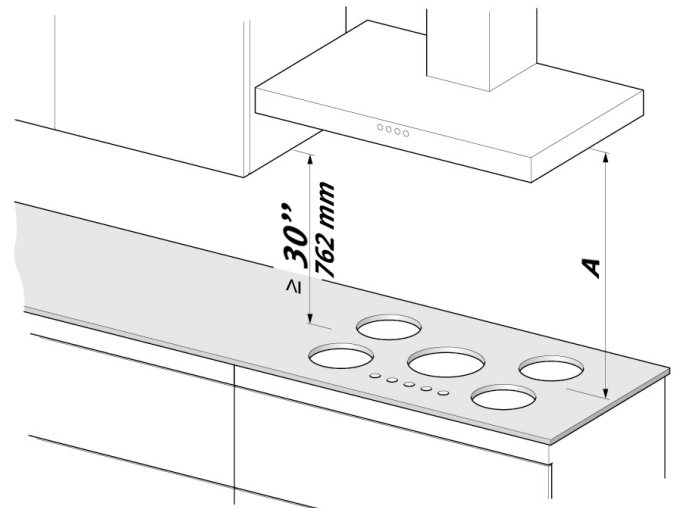

fig. 5
- A 30 inch minimum clearance between the top of the cooking surface and the bottom of an unprotected wood or metal cabinet needs to be realised (fig 5).
- **A** = The minimum safety distance specified by the hood manufacturer must be maintained between the cooktop and the hood above it (fig 5). Please refer to the hood's installation instructions for the specific safety clearances.